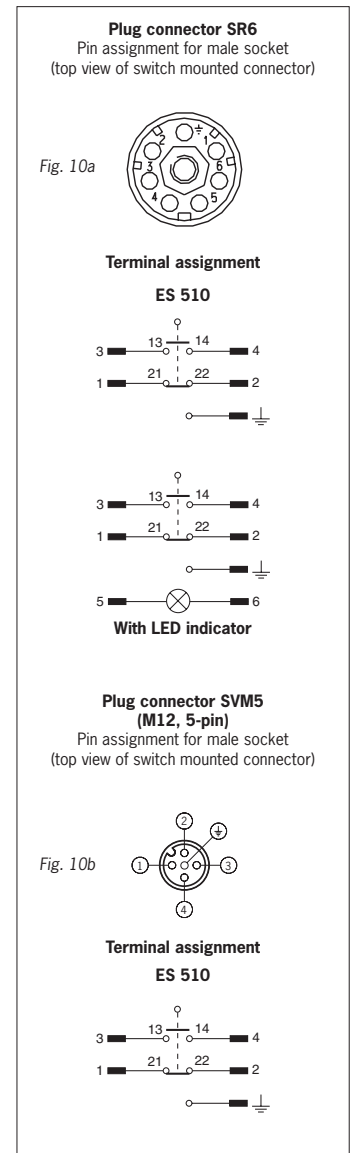

Fig. 10: Switching elements and connector assignment
- ▶ For terminal assignment, see Fig. 10.